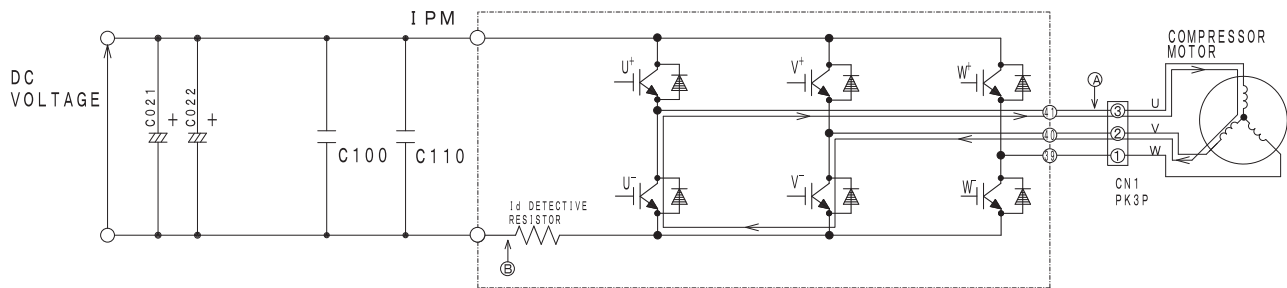

Fig. 4-4 Power module circuit (U^+ is OFF, V^- is ON)
- (2) When U^+ transistor is OFF: (by inductance of motor coil) $U \text{ coil} \rightarrow V \text{ coil} \rightarrow V^- \text{ transistor} \rightarrow U^- \text{ diode} \rightarrow \text{Point ⑥ (Fig. 4-4)}$